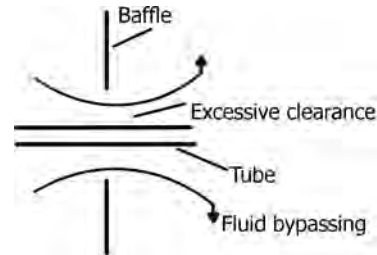

FIGURE 10.26 Large clearance between baffle and tube.
- Large clearances result in fluid bypassing as shown in Figure 10.26.